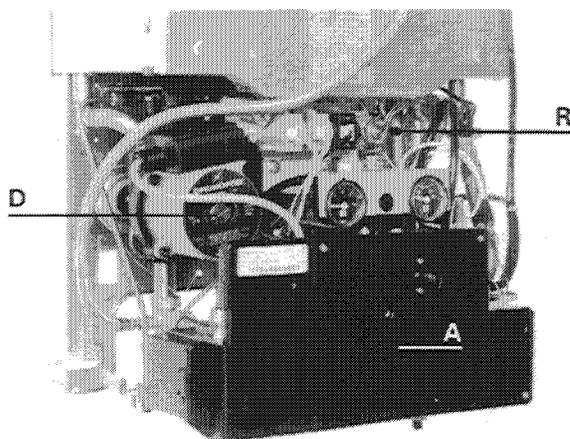
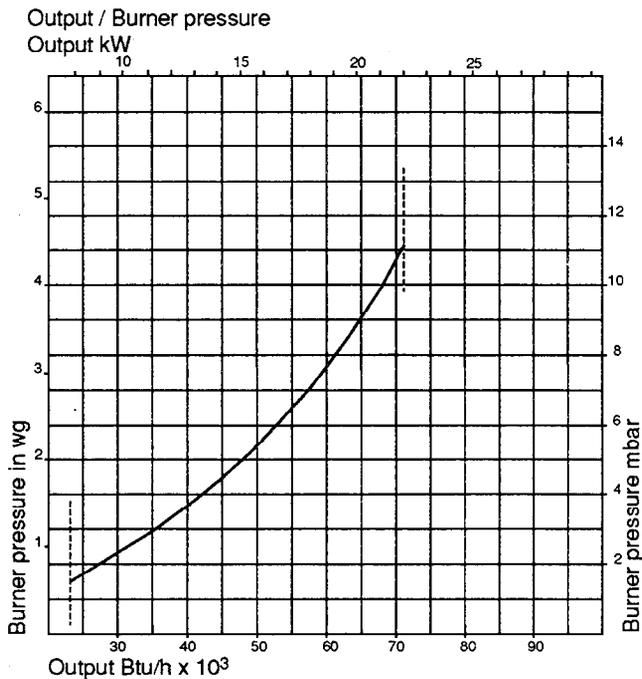

Fig. 35
Fig. 37
- 8) Manually check pump is free to rotate. Remove cap (fig. 35 D).
- Insert small electrical screwdriver (3 mm blade), locate in slot in pump shaft, rotate clockwise to ensure that pump is free replace cap (D).
- 9) Switch to HOT WATER + CENTRAL HEATING on selector switch (A) (fig. 35) switch position (II).
- 11) Isolate water supply and drain boiler by disconnecting fill system and opening the drain valve (F). This is incorporated in the safety valve and is achieved by screwing down the head until the valve lifts. Open all low level drain cocks.
- 12) Remove filter in the return isolating valve (C) and inspect for any installation debris (see section 7.5), to clean and replace.
- 1) Switch boiler to the off (O) central position, see section 6.3 (fig. 35).
- 2) Remove the pressure test point screw - (B) and connect a suitable pressure gauge.
- 3) Remove the hexagonal cap from gas rate adjuster exposing the adjusting screw (C).
- 4) Switch the boiler to hot water and central heating (II) and check that any fitted external controls are calling for heat.
- 5) Adjust. Setting pressures are given in graph figs. 37 and 38. The pressure will be reduced by clockwise movement of screw, increased by anticlockwise movement. Now select hot water only, adjust hot water regulator, see fig. 4 (20), to minimum and open the largest volume draw-off tap. The gas pressure should now be the maximum as indicated in Technical Data.
- 6) Switch boiler off (O). Remove pressure gauge and replace test point screw and gas rate adjuster hexagon cap. Check for gas soundness around screw.